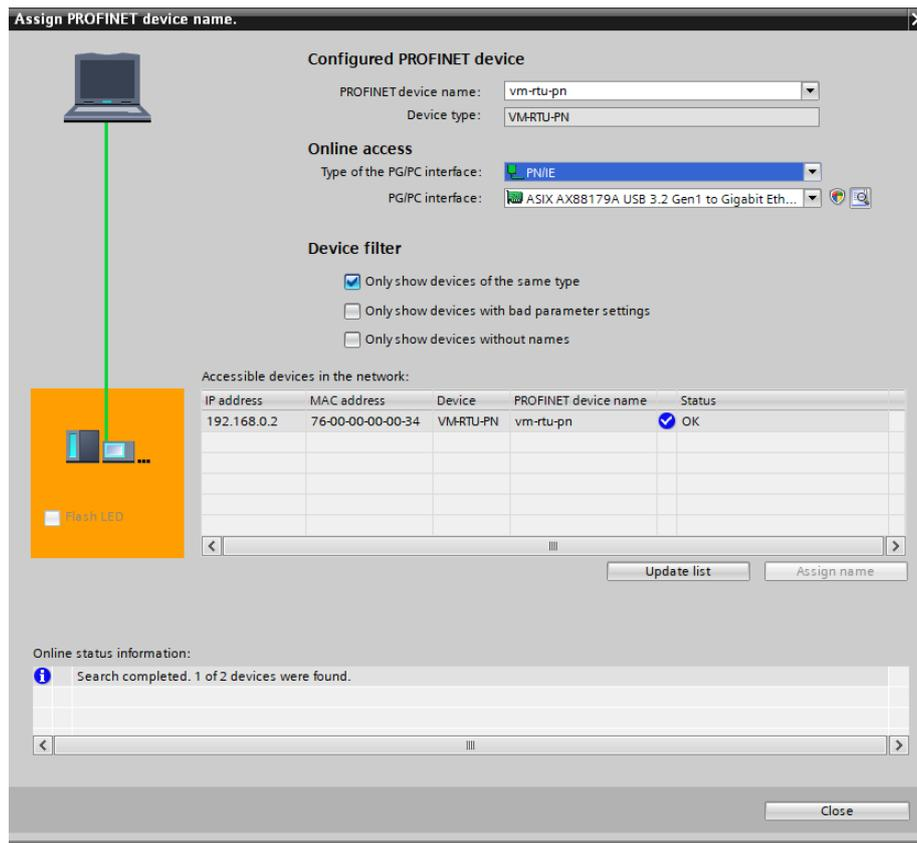

Figure 9 Assign names
3. The software automatically configures the IP addresses and PROFINET device names successfully (IP and PROFINET device names set by the slave in 5.4). As shown in Figure 9